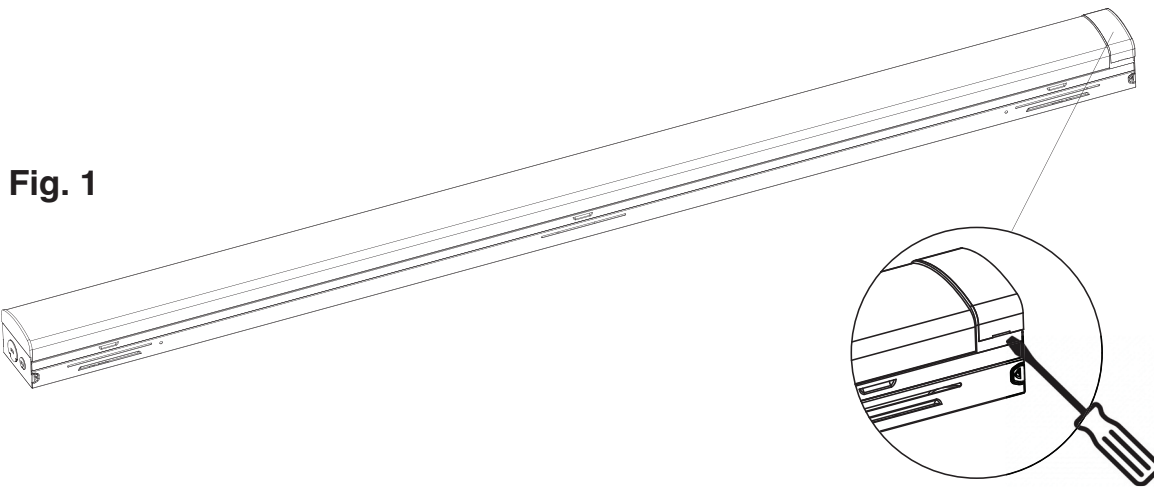

Fig. 1
1. Remove the end cap cover using a flathead screwdriver. (Fig. 1)